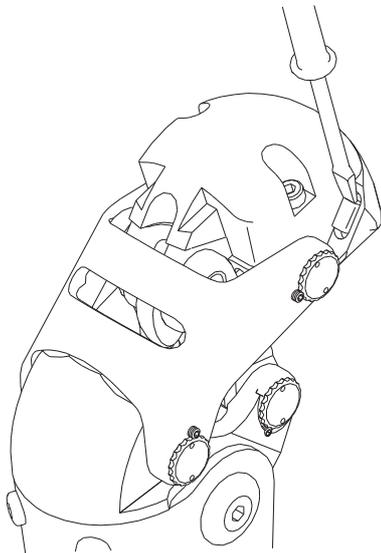

Fig.11
1. Extension stopper rubber (See Fig.11.)